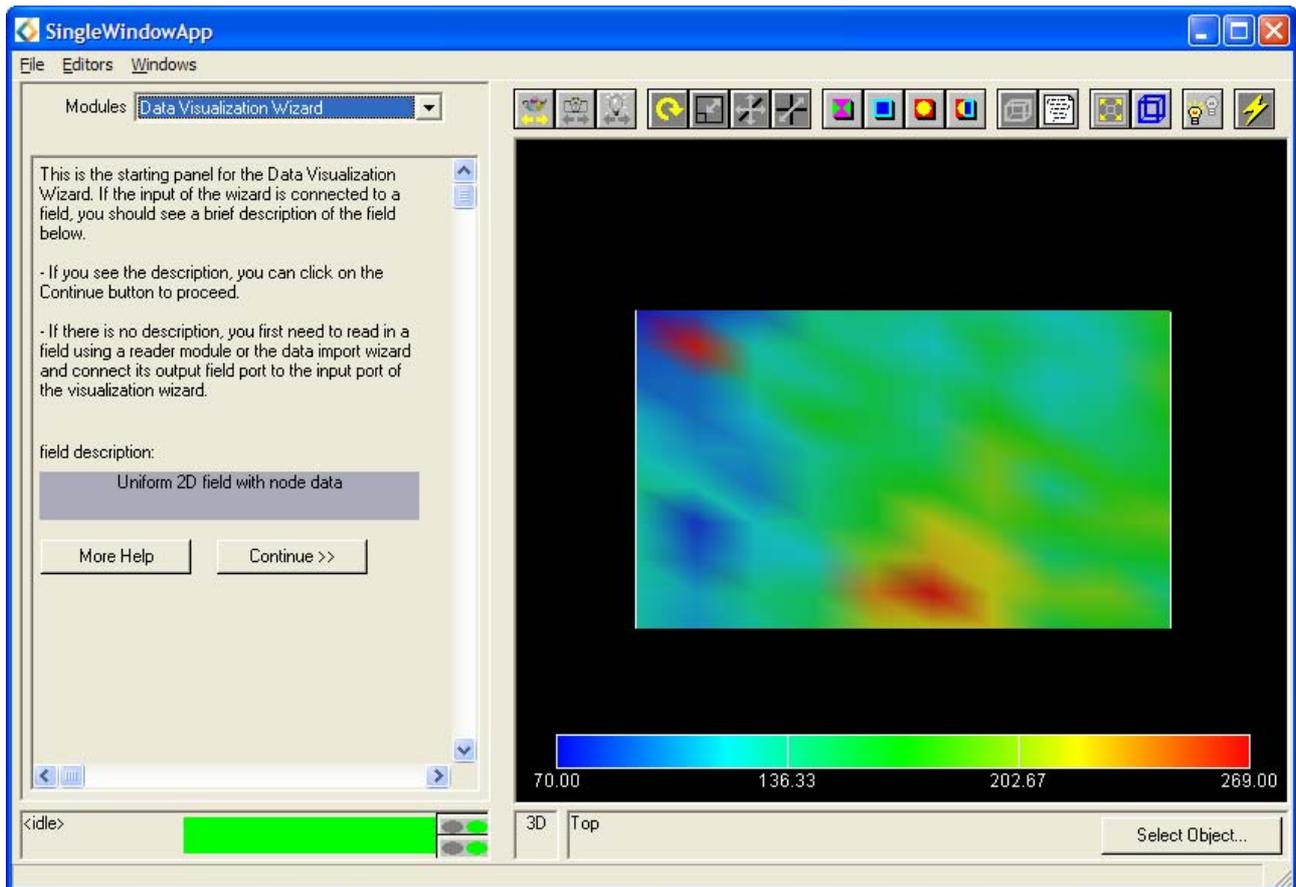

Figure C.42: Visualization produced using the Data Visualization Wizard
- The data will not be visualized as a contour map13 in the Scene window; however it will now have both a bounding box and a horizontal colour legend as shown in Figure C.42.